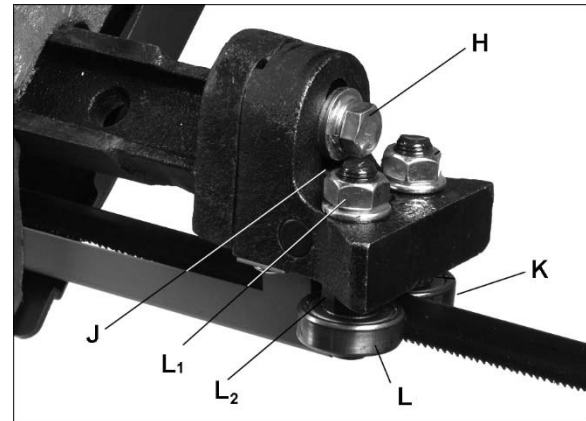

Figure 7-4
2. Loosen bolt (H, Figure 7-4) and adjust assembly so that rear bearing (J) is slightly set back from back edge of blade. Also, inside bearing (K) should very lightly contact blade. Tighten bolt (H).
3. Inside bearing (K) is fixed. Outside bearing (L) rotates on an eccentric shaft. Loosen top nut (L₁) and rotate bottom nut (L₂) to adjust eccentric bearing to very slight distance away from blade.
3. If there is a gap, loosen bolt (H, Figure 7-4) on each blade guide assembly and rotate blade guide assembly until gap is eliminated between square and ruler.
4. Retighten bolts (H, Figure 7-4).